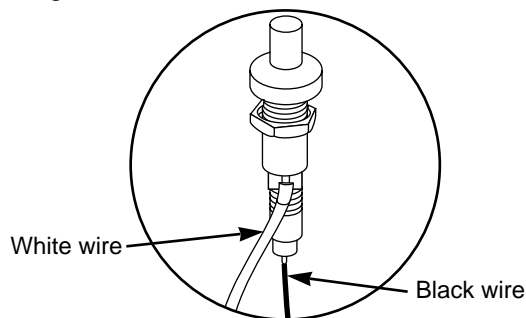

Figure 17
9. Disconnect white and black wire from each igniter. Figure 17.